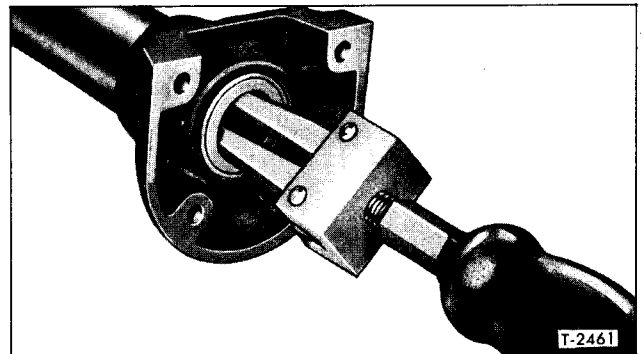

Figure 7—Removing Steering Shaft Upper Bearing
2. Remove steering shaft (29) from steering column jacket (2).
3. With a suitable puller and slide hammer, removing steering shaft upper bearing assembly as shown in figure 7.